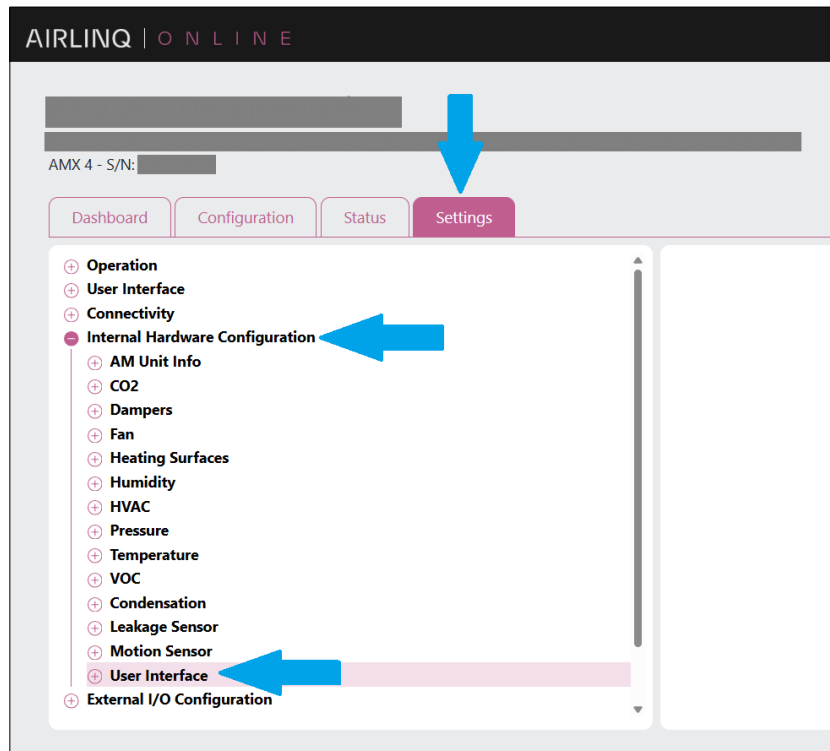

Figure 43: User Interface sub-menu
1. Go to the “Settings” tab at the top, then click “Internal Hardware Configuration” in the left-hand menu. Next, click on “User Interface”, see Figure 43 below.